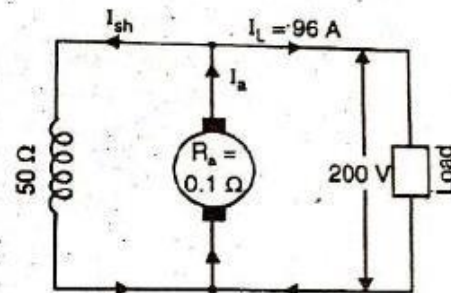

Fig. 2.58
**Solution.** Fig. 2.58 shows the connections of shunt generator.